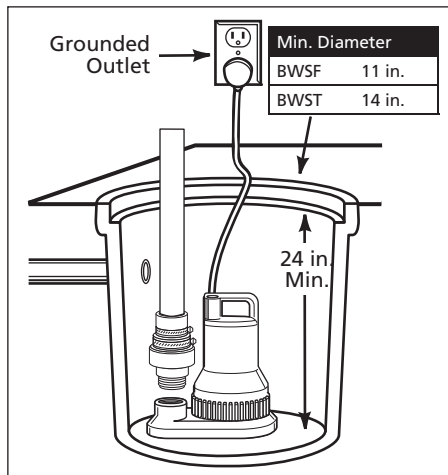

Figure 2
1. Install pump in a sump pit with minimum size as shown in Figure 2. Construct sump pit of tile, concrete, steel or plastic.